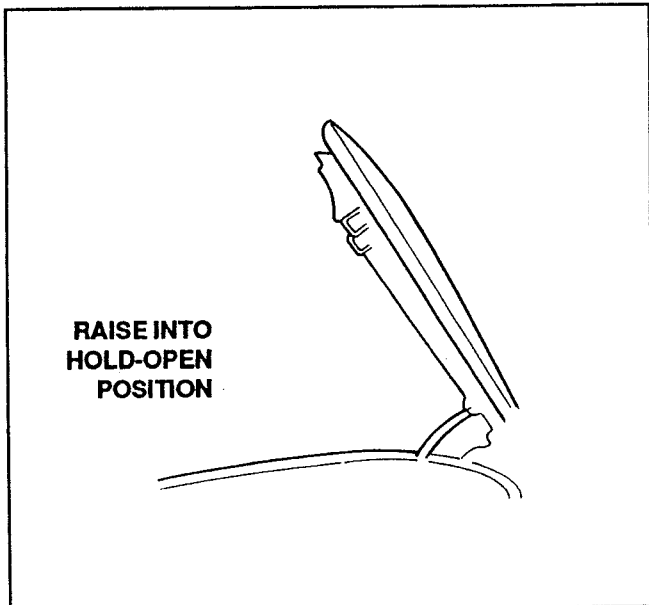

Figure 11. Open Stowage Panel
6. Open the stowage panel to the hold-open position (Fig. 11). Never lift the 1-bow without first opening the stowage panel. The top stack hinges will damage the stowage panel vinyl applique.